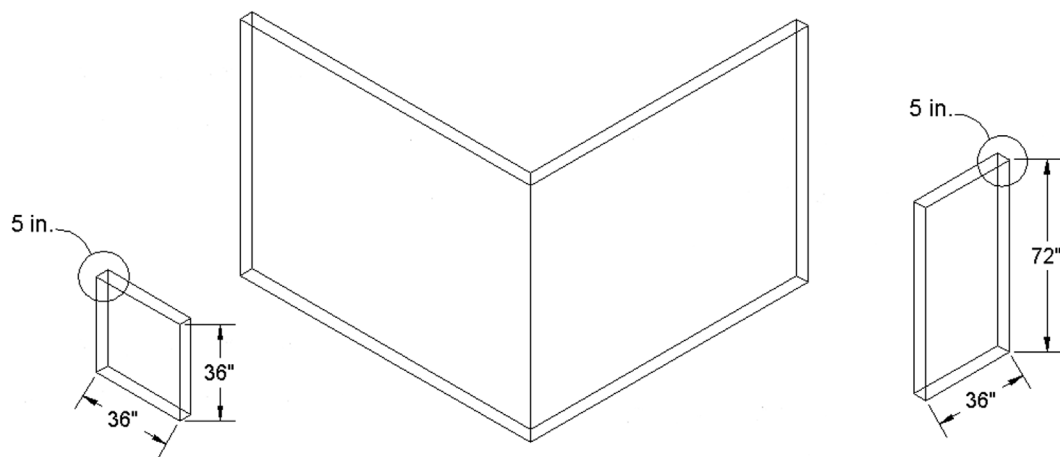

FIGURE 23.13 3D modeling exercise, Step 3.
- Step 3.** Now create a 36" \times 36" window (off to the side) as well as a 36" wide \times 72" high door (also off to the side). Both should be 5" thick, as that is the overall thickness of the walls. Rotate 3D the objects into position if needed. The result is shown in Fig. 23.13.